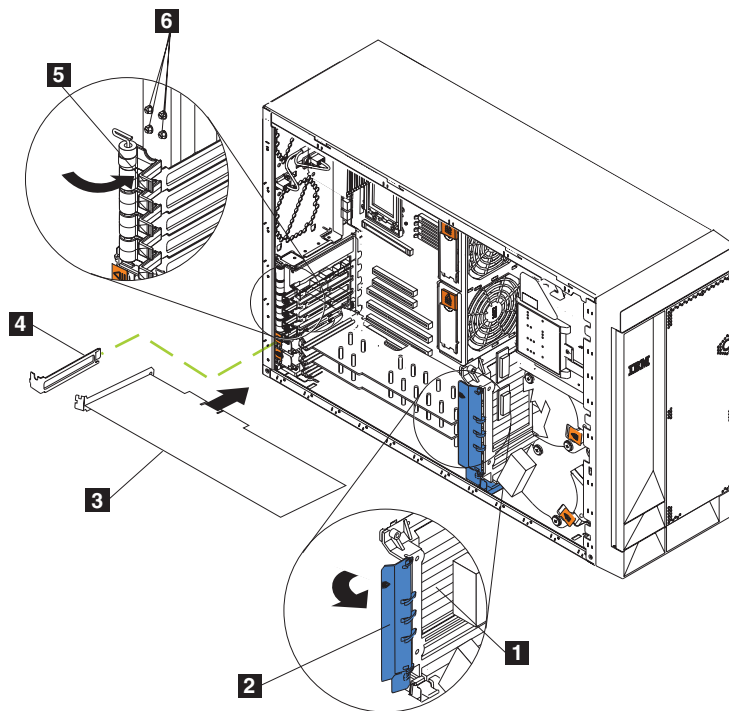
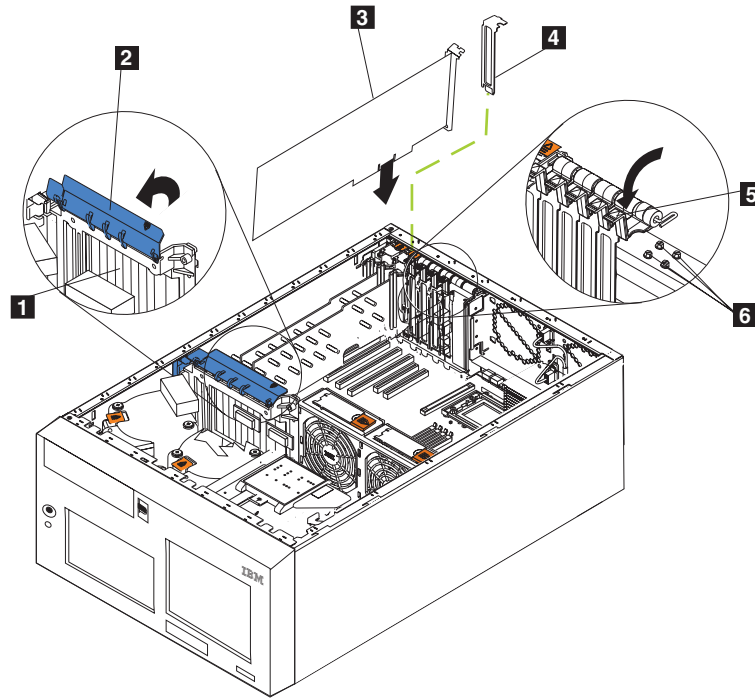

Figure 114. Replacing a ServeRAID controller (Model 25T)
Figure 115. Replacing a ServeRAID controller (Model 25T with the rack-mount conversion feature)
- d. Remove the old adapter using Figure 114 and Figure 115 on page 183 as reference.
- b. Remove the defective ServeRAID-5i controller using Figure 114 on page 182 and Figure 115 on page 183 as a reference.
- d. Remove the adapter using Figure 114 on page 182 and Figure 115 on page 183 as a reference.